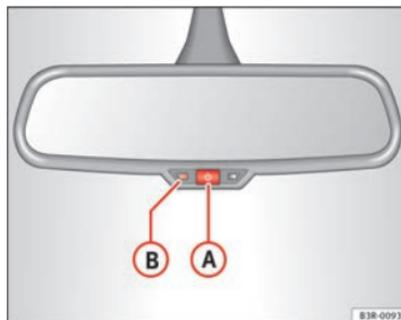

Fig. 102 Interior mirror with anti-dazzle setting: Indicator lamp and on/off switch ▶
- Press button **(A)** ⇒ Fig. 102. Control lamp **(B)** goes off.
- Press button **(A)** ⇒ Fig. 102. Indicator lamp **(B)** turns on.